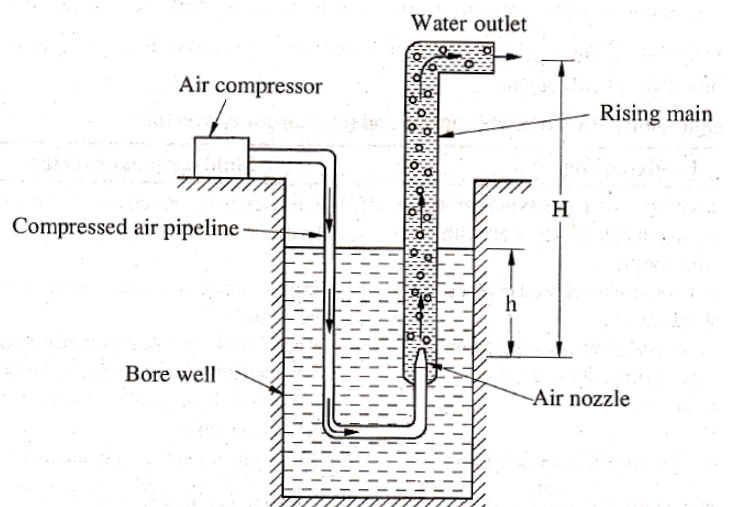

Fig.10.10 –Air Lift Pump
- ▶ It consists of 1) an air compressor to supply the compressed air, 2) an air pipe fitted with one or more air nozzles and 3) the delivery pipe as shown in Fig.10.10.